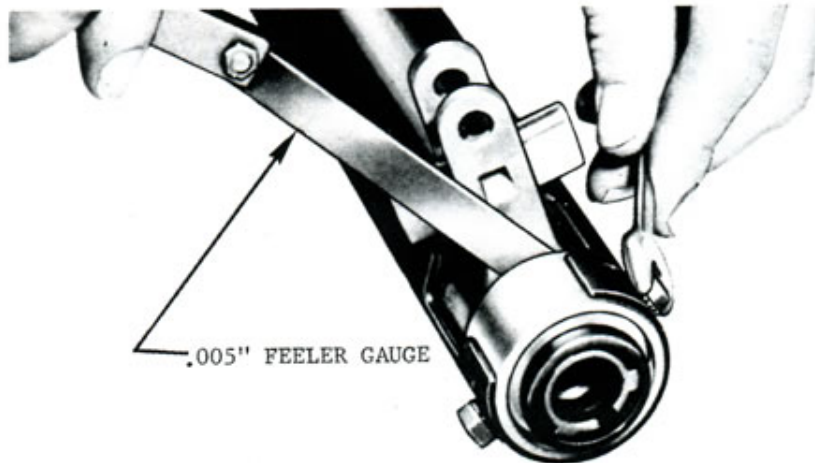

FIGURE 3 - ADJUSTING 1ST-REVERSE LEVER CLEARANCE
7. Rotate adjusting ring upward until clearance of .005" exists between first-reverse control lever and ring as shown in Figure 3. Tighten cap screws.